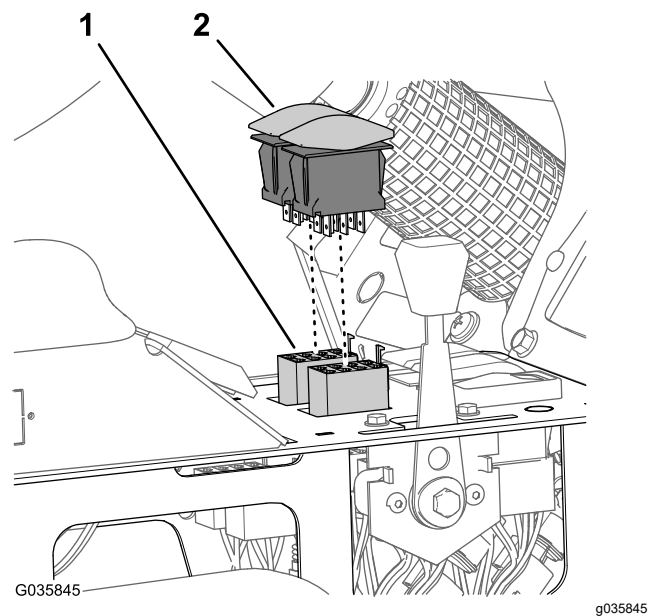

Figure 40
3. Disconnect the 8-socket connectors of the wiring harness for the machine from the boom-lift switches for the left and right boom-lift control circuits (Figure 40).
4. Connect the rocker switches into the 8-socket connectors of the wiring harness for the ultra sonic boom finishing kit (Figure 40).
5. Insert the boom-lift switches in the openings in the center-console panel until the switches snap securely (Figure 40).